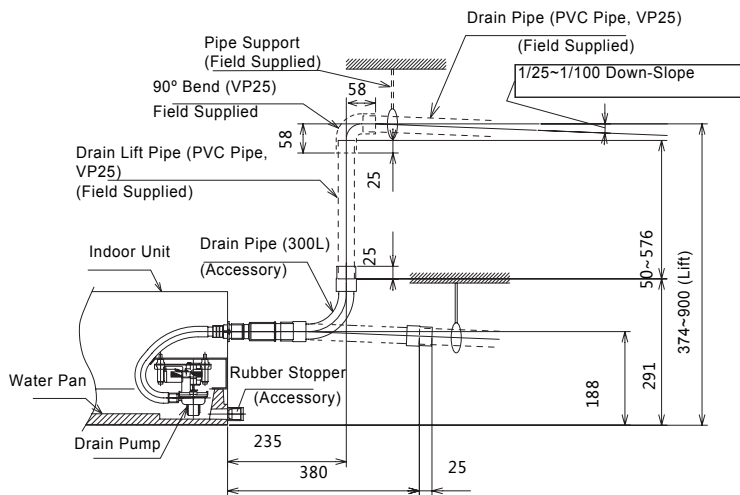

Fig. 6.1 Drain Pipe
- (1) The position of the drain pipe connection is shown in Fig. 6.1.
- (2) Prepare a polyvinyl chloride pipe with a 32mm outer diameter.
- (3) Fasten the tubing to the drain hose with the adhesive agent and the factory-supplied clamp. The drain pipe must be performed with a down-slope pitch of 1/25 to 1/100.
- (4) Insulate the drain pipe after connecting the drain hose.